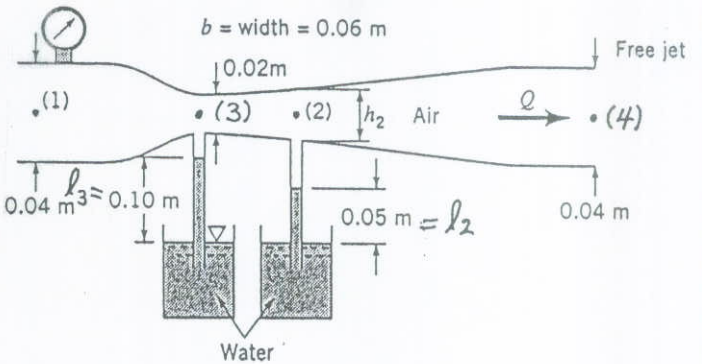

FIGURE P3.67
3.67 Air flows through a Venturi channel of rectangular cross section as shown in Video V3.10 and Fig. P3.67. The constant width of the channel is 0.06 m and the height at the exit is 0.04 m. Compressibility and viscous effects are negligible. (a) Determine the flowrate when water is drawn up 0.10 m in a small tube attached to the static pressure tap at the throat where the channel height is 0.02 m. (b) Determine the channel height,  $h_2$ , at section (2) where, for the same flowrate as in part (a), the water is drawn up 0.05 m. (c) Determine the pressure needed at section (1) to produce this flow.